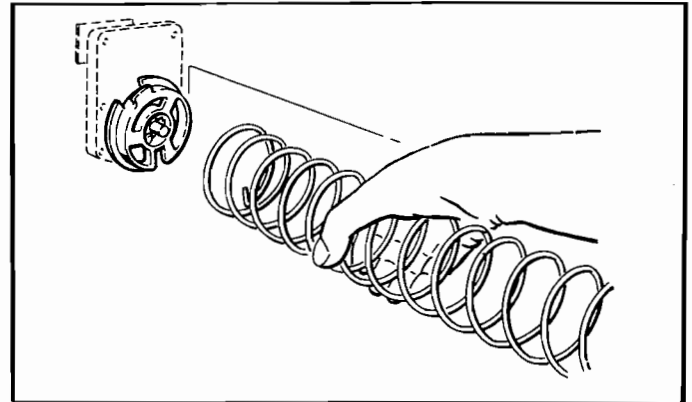
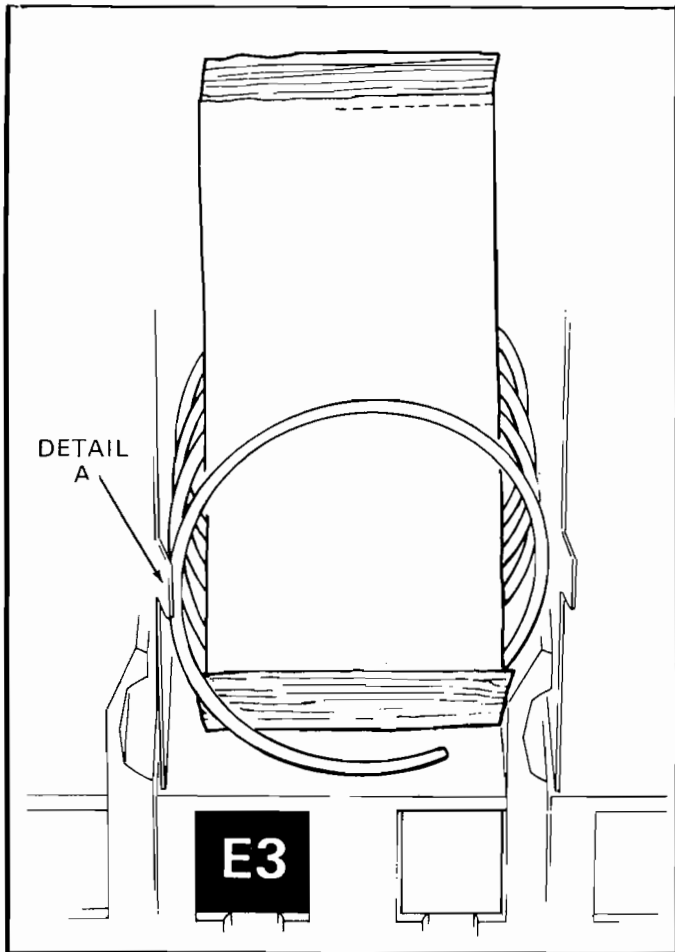

Figure 3. REMOVING AND INSTALLING SPIRAL.
Figure 5. PLACEMENT OF PRODUCT ON MAIN PRODUCT CANDY SHELVES AND FRONT END POSITION OF SPIRAL.
4. REMOVAL OF SPIRAL: Grasp the front of the spiral and turn it clockwise. Lift the spiral up and off of the spiral lock. When replacing a spiral attach it around the tab on the spiral lock and turn the spiral counterclockwise to lock it in place. Be sure the front end of the spiral is positioned properly (with the front end of the spiral pointing downward on the left side) (see Figure 3). The spiral lock is attached between the spiral retainer tabs. Give a light forward pull on front of the spiral to check if it is locked in place.
6. **LOADING MAIN PRODUCT CANDY SHELVES:** The 8-selection (candy type) shelves are loaded similar to the 4-selection shelves except that the bottom of the product sits on the shelf in front of the spiral wire (see Figure 5) that rests on the shelf. These products must also fit prop-
erly in the spiral space; do not force product into spiral. These spirals are removed and installed the same as the large spiral (see Figure 3), except that the front end position is different (approximately 5 o'clock) (see Figure 5) and the front left side of the spiral must be behind the small tab located on the left side of the product space side wall (see Figure 5, Detail A).